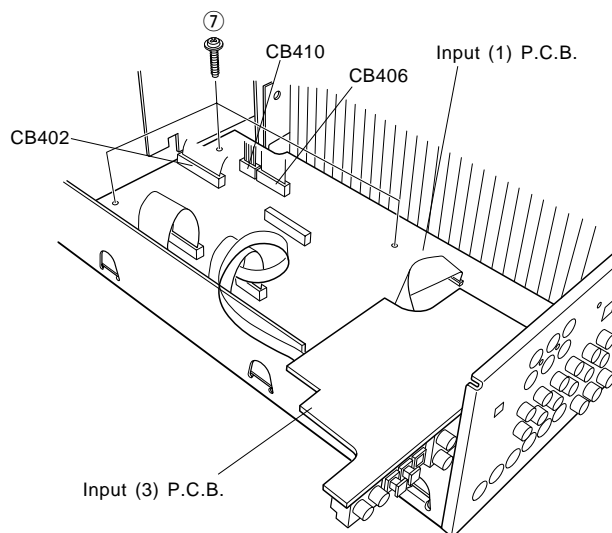

Fig. 3
- b. Disconnect 2 flat connecting cables (CB402, CB406) and a connector (CB410) in Fig. 3.
- c. Remove 3 screws (⑦) and then remove the Input (1) P.C.B. in Fig. 3.